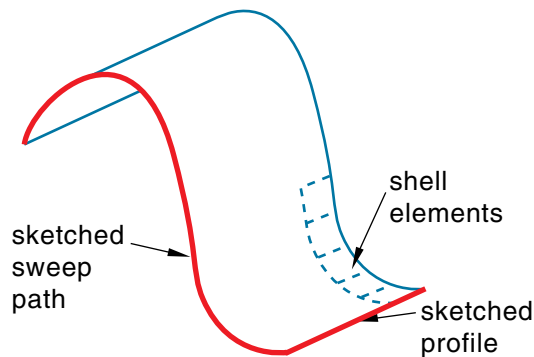

Figure 11–26 A swept shell feature.
- To create a planar shell feature, you sketch the outline of the shell on a selected planar face or datum plane, as shown in Figure 11–27. When you sketch on a planar face (for example, the side